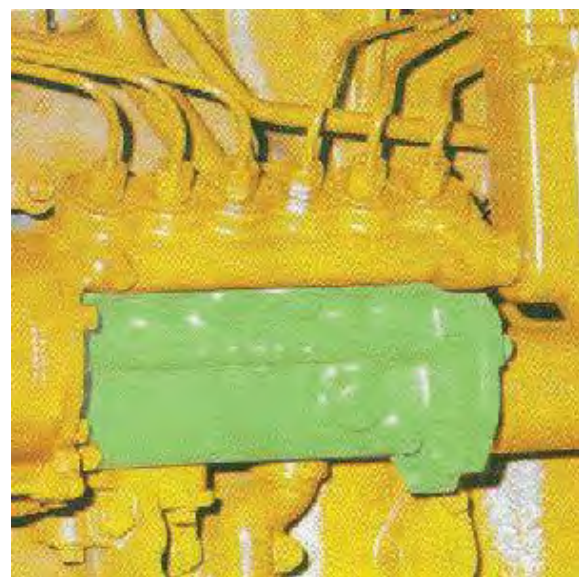

Figure 2-9 - Multiple-plunger, inline pumpsystem.
- Multiple-plunger, inline pump systems, shown in *Figure 2-9*, use individual pumps that are contained in a single injection pump housing. The number of plungers is equal the number of cylinders on the engine and they are operated on a pump camshaft. This system is used on many mobile applications and is very popular with several engine manufacturers.